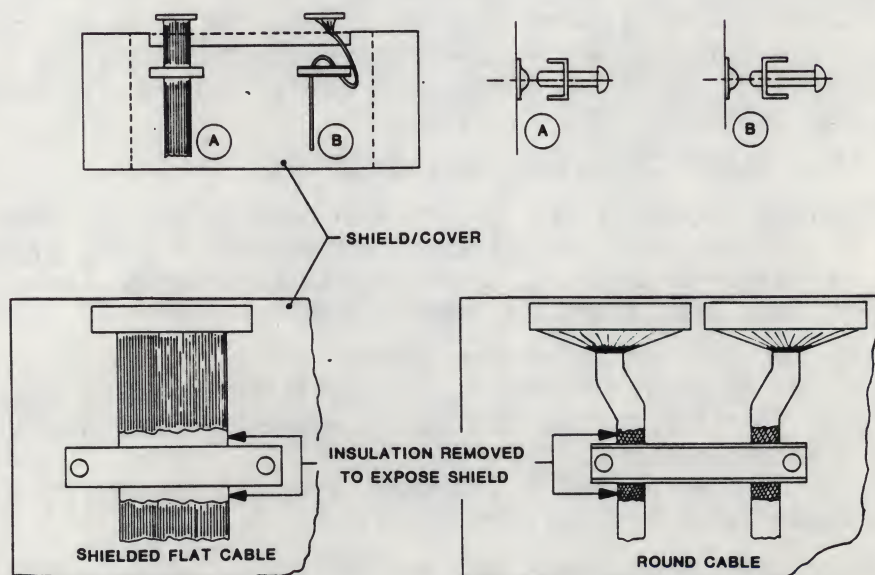
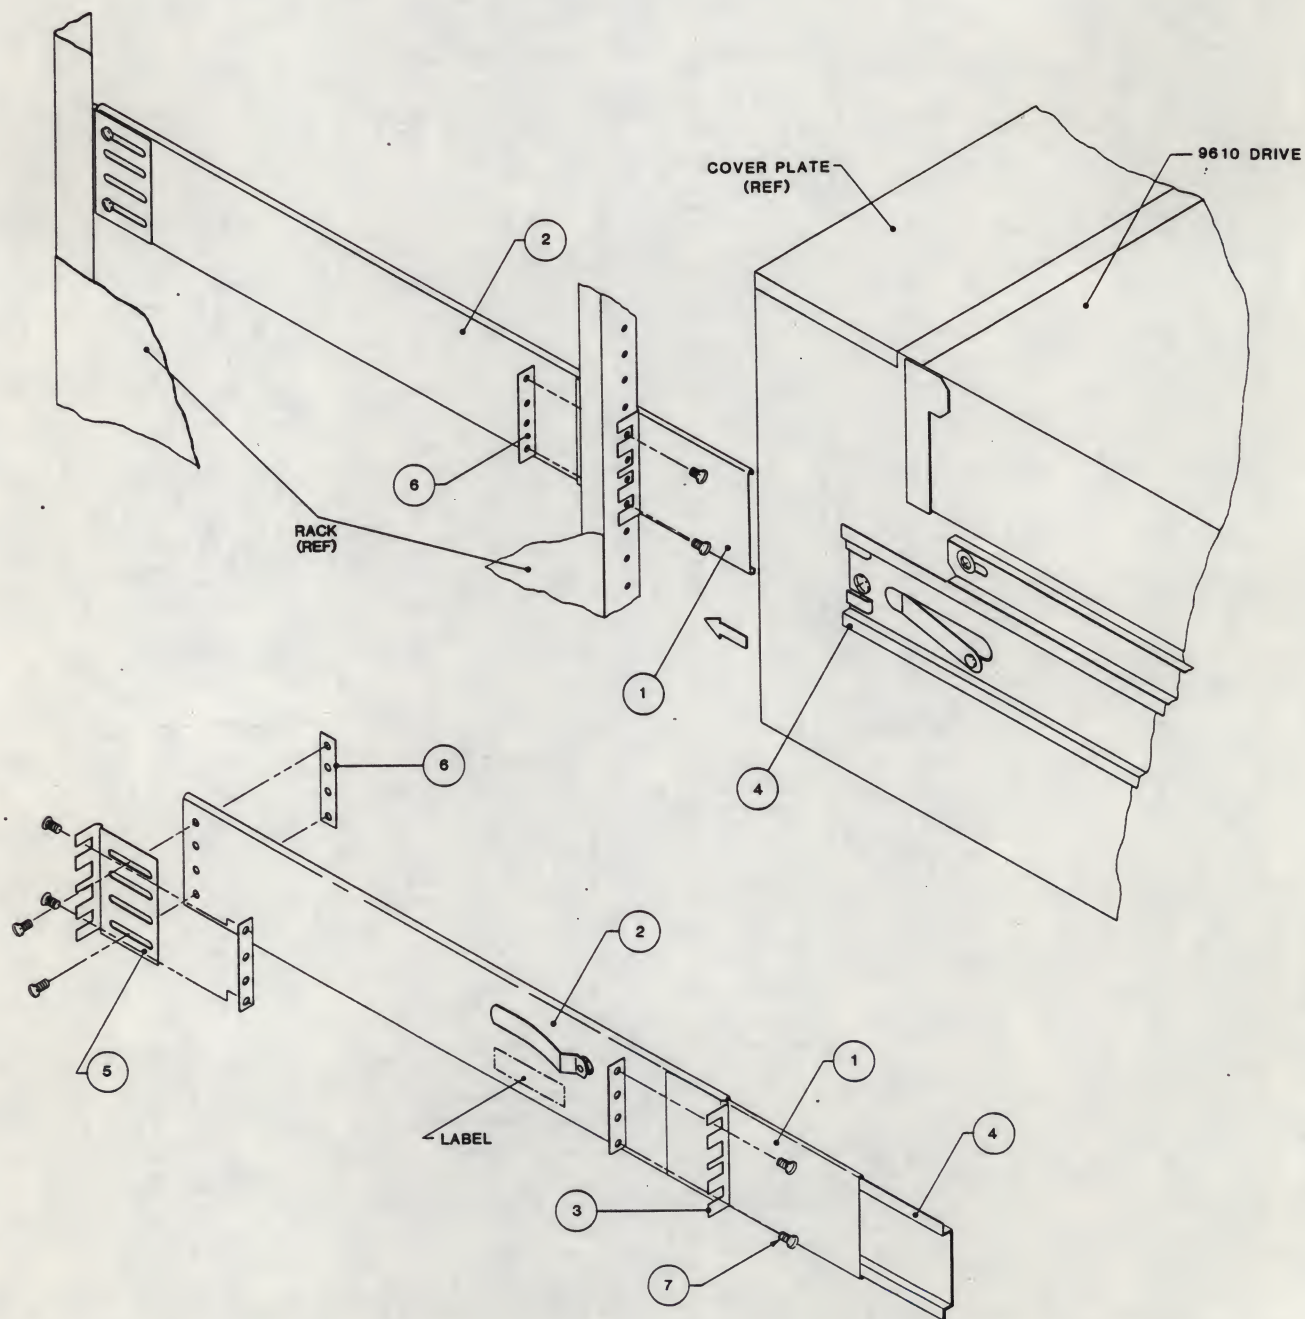

Figure 2-3. Grounding Cable Clamp Details
Figure 2-8. Track Subassembly
Recommended connectors and cables are as follows: - Daisy chains may optionally require a Cable Connector Adapter (See Figures 2-3 and 2-5).
A. Install one of the Track Assemblies (Figure 2-8) on either side of the 19-inch Rack as follows:
- Using the 10-32 Slotted Screws (7) and Nut Plates (6)* provided, loosely assemble an Adjustable Mounting Bracket (5) to the rear of the Right Track Assembly.
- Aligning the bottom of the Fixed Mounting Bracket (3) at the 2-inch mark on the front of the 19-inch Rack, and using the 10-32 Screws (7) provided, mount the Fixed Mounting Bracket (3) to the front of the 19-inch Rack, and mount the Adjustable Mounting Bracket (5) (loosely attached to the rear of the Center Track) to corresponding holes in the the rear of the 19-inch Rack. Level the Track and tighten all Screws.
- E. Remove about an inch of insulation from each Interface Cable at a point where the Cable will pass under the Grounding Cable Clamp(s). This will expose the cable shield. Run the Interface Cables under the Cable Clamp(s) as illustrated in Figure 2-3. Tighten the Clamp(s).